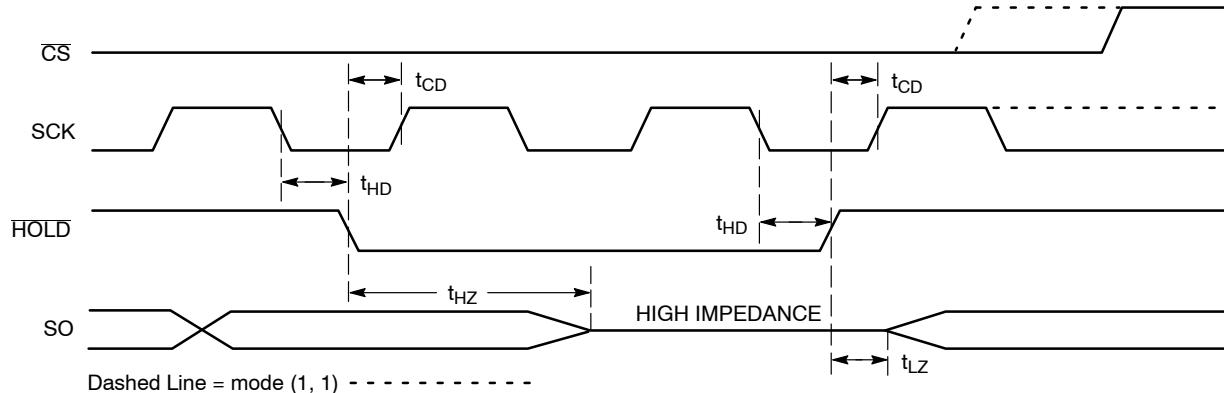

Figure 11. HOLD Timing
The HOLD input can be used to pause communication between host and CAV25256. To pause, HOLD must be taken low while SCK is low (Figure 11). During the hold condition the device must remain selected (CS low). During the pause, the data output pin (SO) is tri-stated (high impedance) and SI transitions are ignored. To resume communication, HOLD must be taken high while SCK is low.